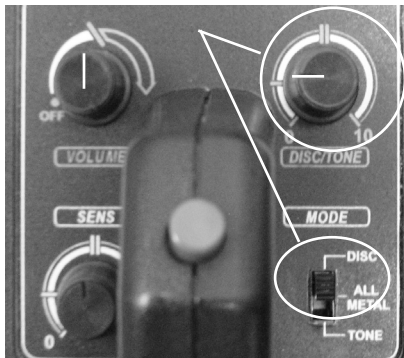

Figure 7
2. Then set MODE switch to DISC and the DISC/TONE dial to about “9 o'clock.” See Figure 7.